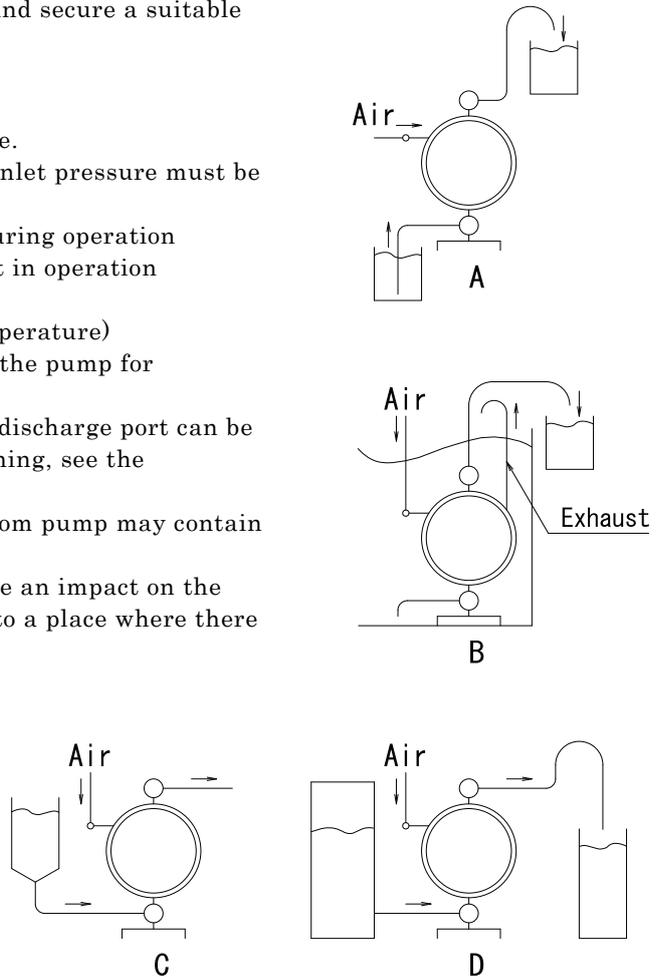

Fig.3.1
- 1) Decide where the pump should be installed and secure a suitable space (see Fig.3.1 A to D).